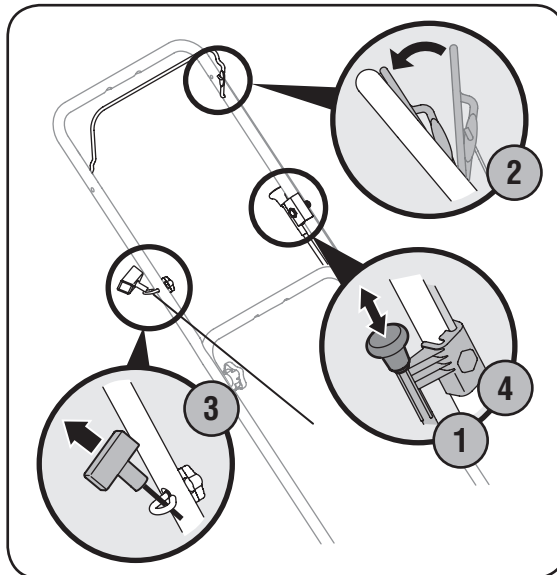

Figure 9-4
1. Move the choke lever on the left side of the upper handle to START position. See Figure 9-4.
3. Pull the starter grip lightly until resistance is felt, then pull rapidly to overcome compression, prevent kickback and start engine. Repeat if necessary. See Figure 9-4.
1. Release the blade control handle. See Figure 9-4.